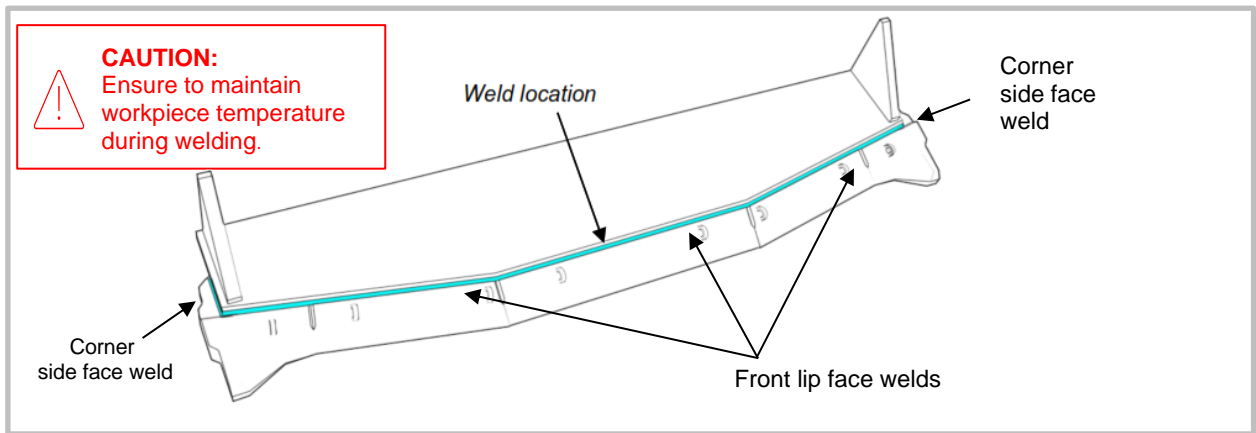

Figure 13 Bevel weld – top side of the lip (image is for reference purposes only).
Step 8 :Progressively lap bevel welds on top lip face and corner side face welds until the correct weld size – as indicated by the lip assembly drawing – is achieved. If the drawing doesn't specify a weld size, refer to the weld size in the table below (Figure 13)